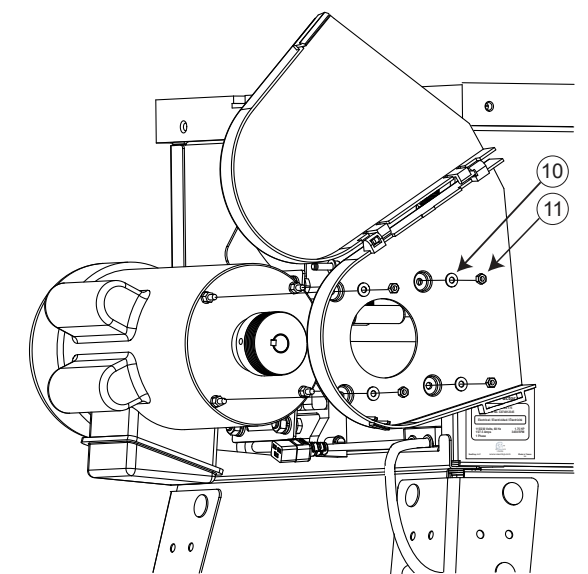

Fig. 18
18. Align the four holes in the belt guard with the four screws on the pulley side of the motor. Use four M5 washers and four M5 hex nuts from the hardware pack to mount the belt guard to the pulley side of the motor (see Fig. 18). Use an 8 mm socket to tighten the hex nuts.